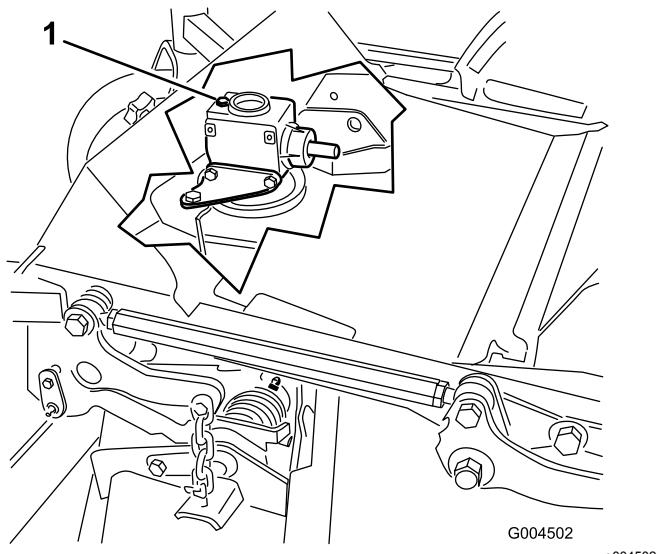

Figure 30
6. Remove the dipstick/fill plug from the top of the gearbox and make sure that the lubricant is between the marks on the dipstick (Figure 30).
6. Remove the dipstick/fill plug from the top of the gearbox (Figure 30).